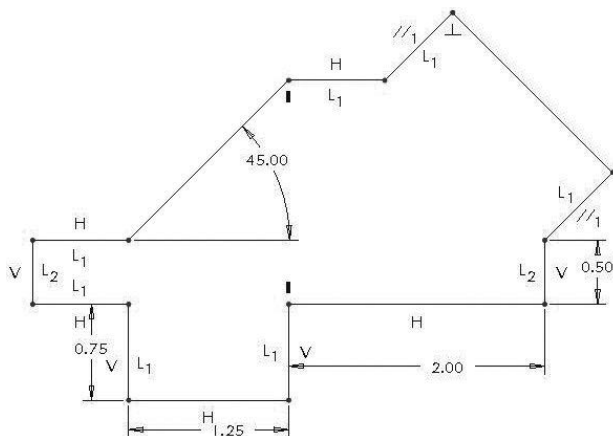

Figure 3-43 Sheet Metal Pattern
Step 51: Draw sheet metal pattern (Figure 3-43). Note that there are only five dimensions on this sketch. If you fold the sheet metal pattern at the edges, can you guess what it forms? (Answer: Right prism.)